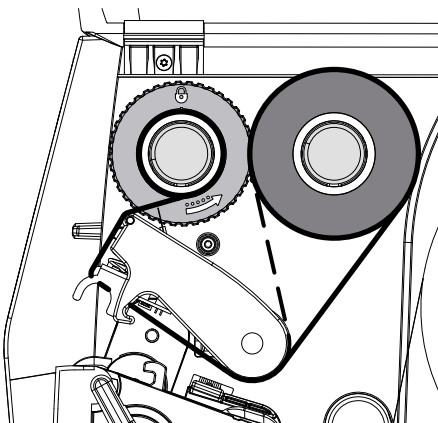

Figure 13 Transfer Ribbon Feed Path
5. Adjust the position of the guide on the take-up hub to the width of the ribbon core (4) and push ribbon core on the take-up hub (2).
6. Guide the ribbon through the printing unit as shown in Figure 13.
► Guide transfer ribbon over the label sensor (6).
7. Secure starting end of ribbon to the transfer ribbon core (4) with adhesive tape. Regard counterclockwise rotation direction of the ribbon take-up hub here.
8. Turn ribbon take-up hub (2) counterclockwise to smooth out the feed path of the ribbon.